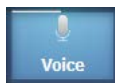

Figure 4-11 Voice listening state
- 3 Use the wake gesture by raising your hand to the level of the camera and create an open palm facing the monitor. The monitor enters into an awake state indicated by a blue border around the screen and a blue **Gesture** icon on the navigation bar. This functionality is similar to the voice awake state. See figure 4-11 on page 86 for an image of how the blue border will appear in the awake state.